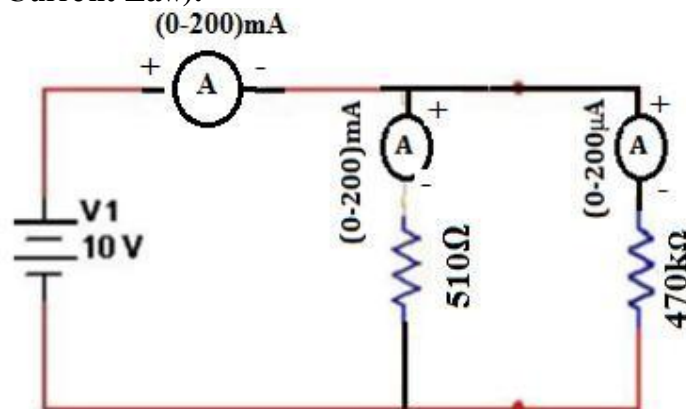

Figure 2
2. Choose two different resistors and connect them as shown in the figure 2.